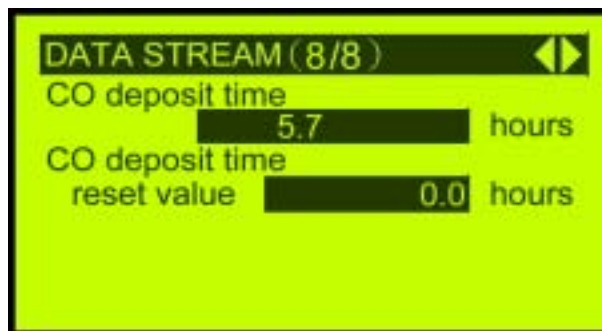
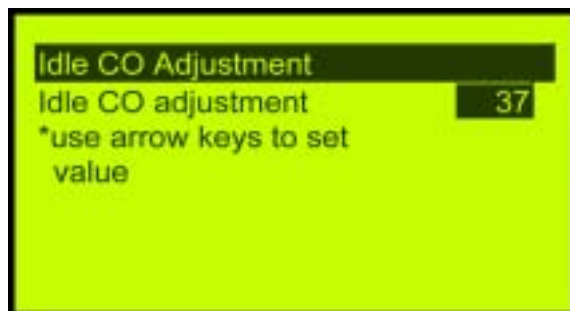

Fig 26
Fig 27
7. When you do not want to check the data analysis above, press “EXIT” key to back to the “4. Idle speed CO adjustment” (LCD background changed into black) (as fig 26) on the main menu. Press “ENTER” key to enter into idle speed CO adjustment. (as fig 27) With the ▲ ▼ and ◀ ▶ cursors to adjust the idle speed CO value.